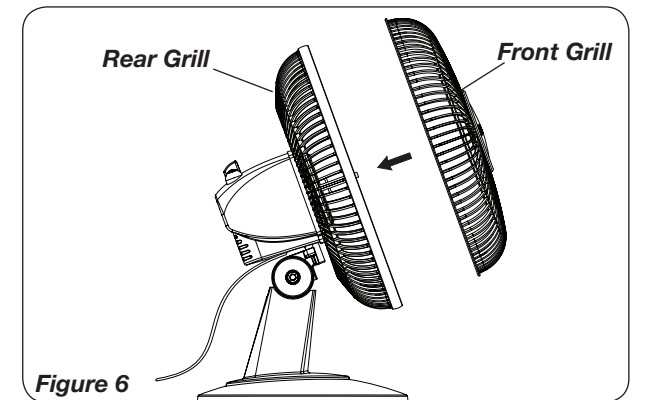

Figure 6
7. With Fan Head tilted back and centered, align Ornament of Front Grill so it is horizontal. Insert bottom of Front Grill into Rear Grill. Tab at the bottom of Rear Grill should be between two Spokes of Front Grill. Snap Front into Rear beginning at the top and working down both sides. **NO GRILL CLIPS ARE NEEDED FOR ASSEMBLY.** (Figure 6)